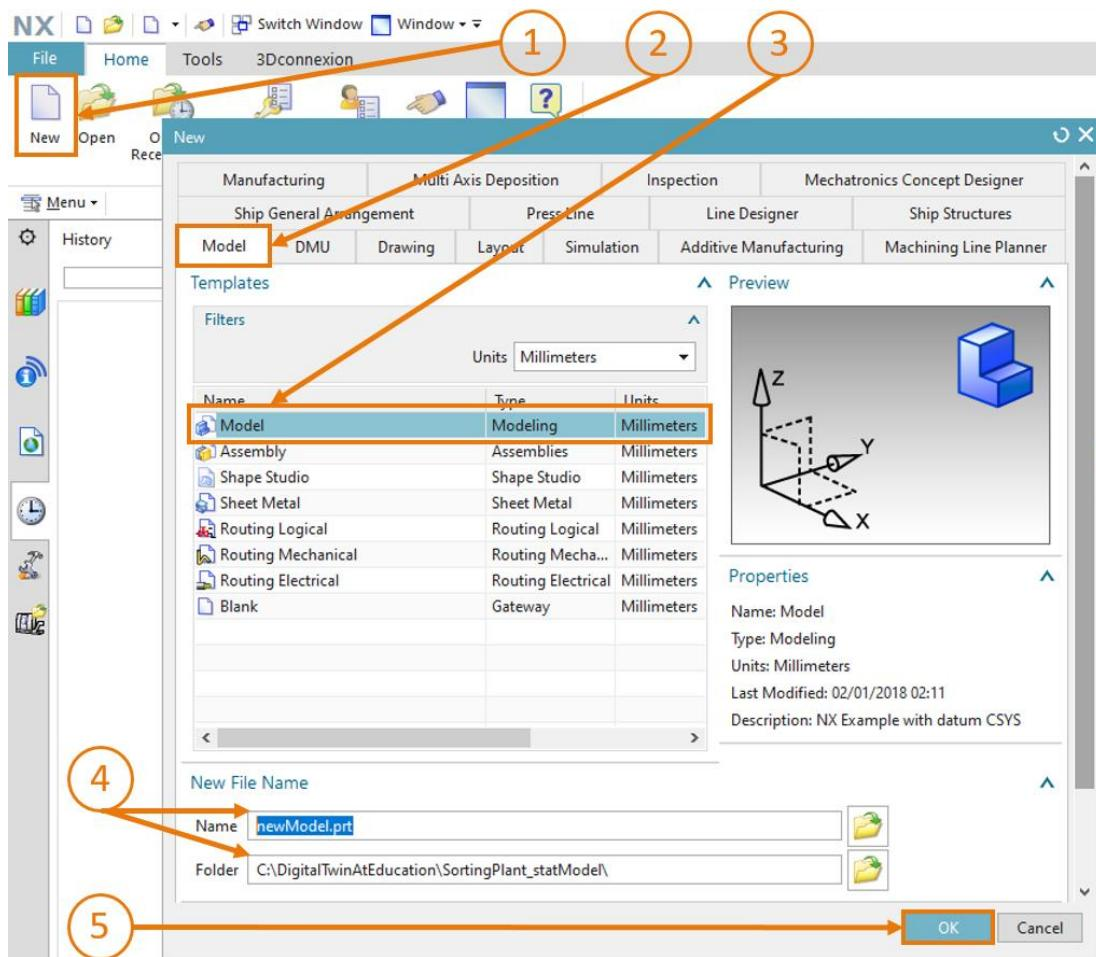

Figure 7: Creating a new model in NX
2. Next, you create a new model. To do so, first press the "New" button (see Figure 7, step 1). The window for creating new modeling data now opens. Select the "Model" tab in this window (see Figure 7, step 2). You will now find various kinds of models you can create. Select a simple **model** (see Figure 7, step 3). Because this is a "Modeling"-type model, the NX application "Modeling" will open automatically after the model is created. Next, assign an appropriate file name for the model, always with file extension ".prt", and choose a working directory (see Figure 7, step 4). Click the "OK" button to create the new model (see Figure 7, step 5).